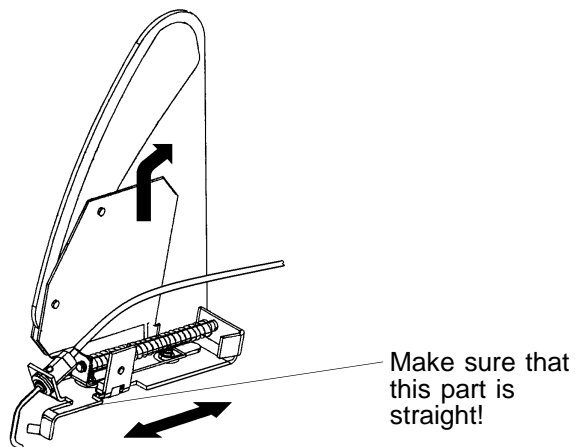

figure 5
1. Check the movement of the BLOWPIPE HOLDERS in the direction of the arrows in figure 5. Be sure that the spring function is correct.